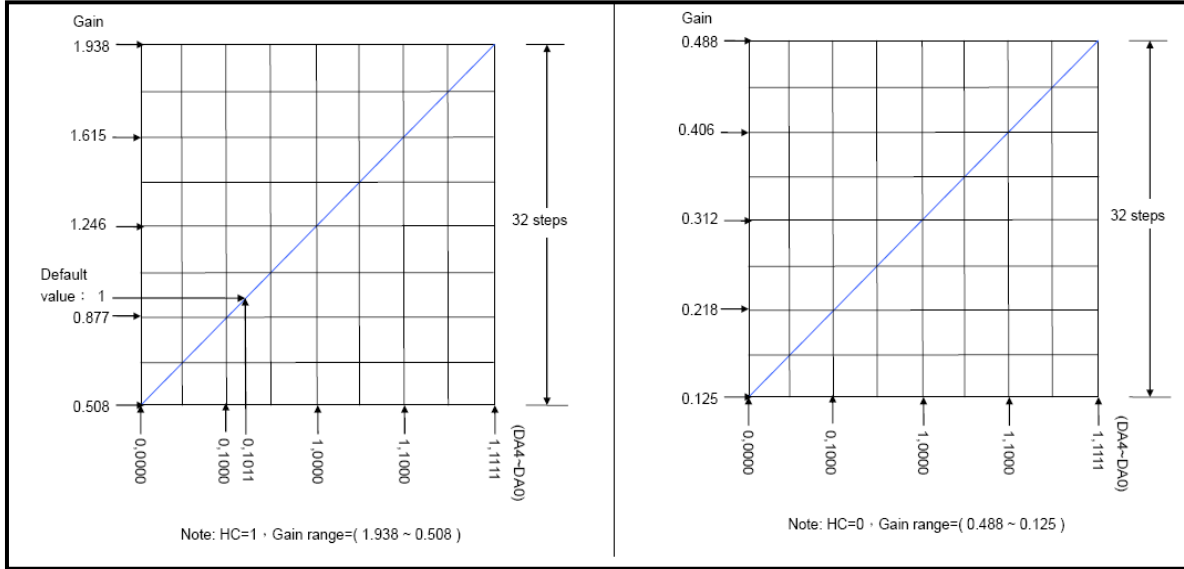

Figure 10. The relationship of current gain and gain code
Step 1: From (4), the $R_{ext} = [(0.61 \times 1) / 10\text{mA}] \times 24 = 1464\Omega$. From figure 10, $G=1$ in the high gain region, that means the $HC=1$. Thus, substitute above information into (5), the $D=(65 \times G - 33) / 3 = 10.67 \approx 11$.
Figure 10 shows the relationship of current gain and gain code. The defaulted gain code of MBI5152 is $6'b101011$, is corresponding to 1.015 current gain.